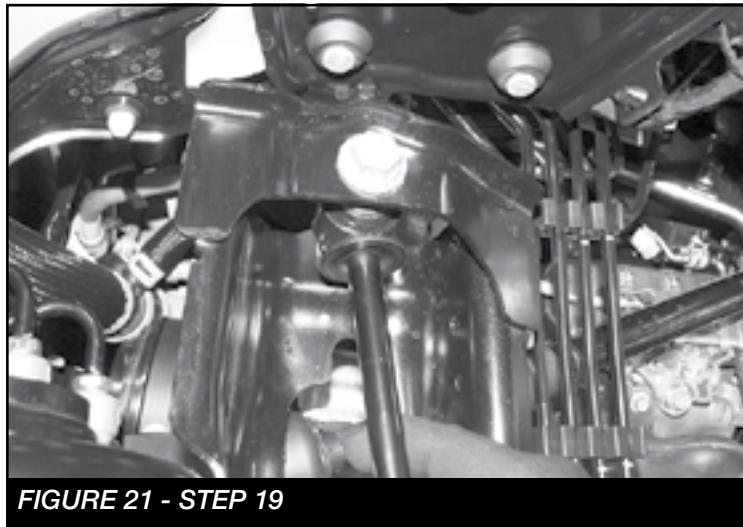

FIGURE 21 - STEP 19
19. **(Upper Shock Mount)** Locate FTS6349 (Stealth), FTS811402 (Dirt Logic) or FTS801402 (Dirt Logic Resi) shock and install FT404739 (Sleeve) into the lower bushing and FT617 (Upper sleeve spacer) into the upper bushing. Next, Install the shock using the factory hardware. **NOTE: The shock will need to be installed so the shock spaces out away from the vehicle.** Torque to 100 ft-lbs. **SEE FIGURE 21**